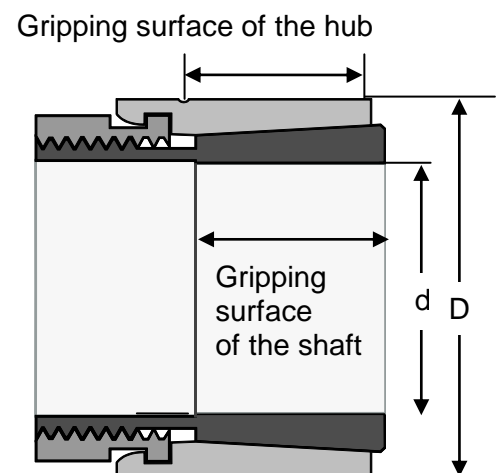

Fig. 1
- For the shaft and the hub borehole, be within  $\pm 0.08$  mm of the borehole "d" or of the external diameter "D" (see Fig. 1).